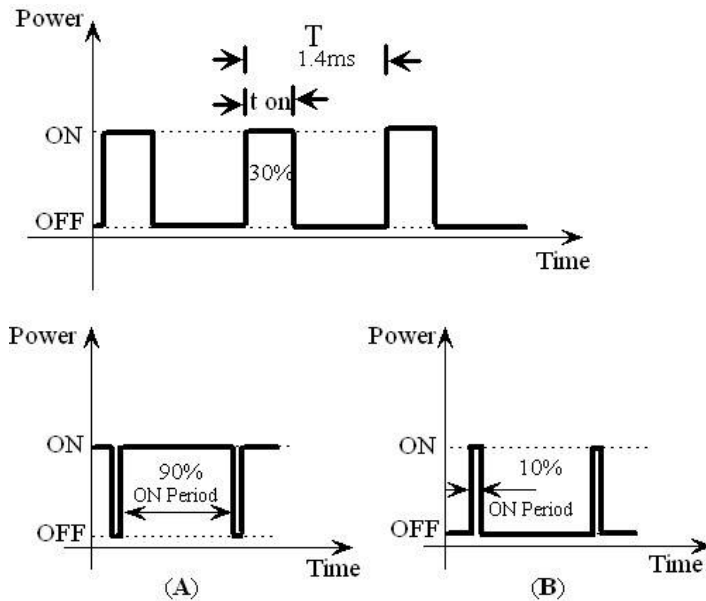

Figure 3.19: Pulse Width Modulation (PWM)
Figure 3.19 shows the PWM waveforms for motor velocity control. In case (A), ON time is 90% of time period. This wave has more average value and hence more power is delivered to the motor. In case (B), the motor will run slower, as the ON time is just 10% of time period.